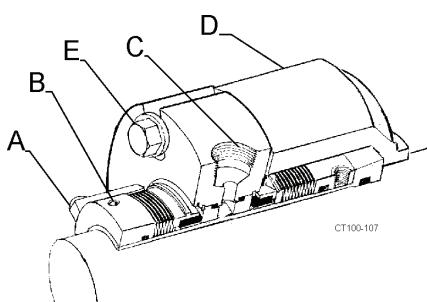

Figure 61 - Typical Cartridge Seal
NOTE: Be sure the flushing ports in the cartridge seal are positioned with the inlet toward the bottom and the outlet toward the top. (Figure 61, item C).
Table 18: Call Outs For Figure 61
14. Hold the backplate in place and tighten the cartridge seal into the cartridge adapter by tightening the cap screws (Figure 61, item E).
16. Tighten the two set screws to the shaft. (Figure 61, item B).
17. Remove the lugs/spacers. (Figure 61, item A).